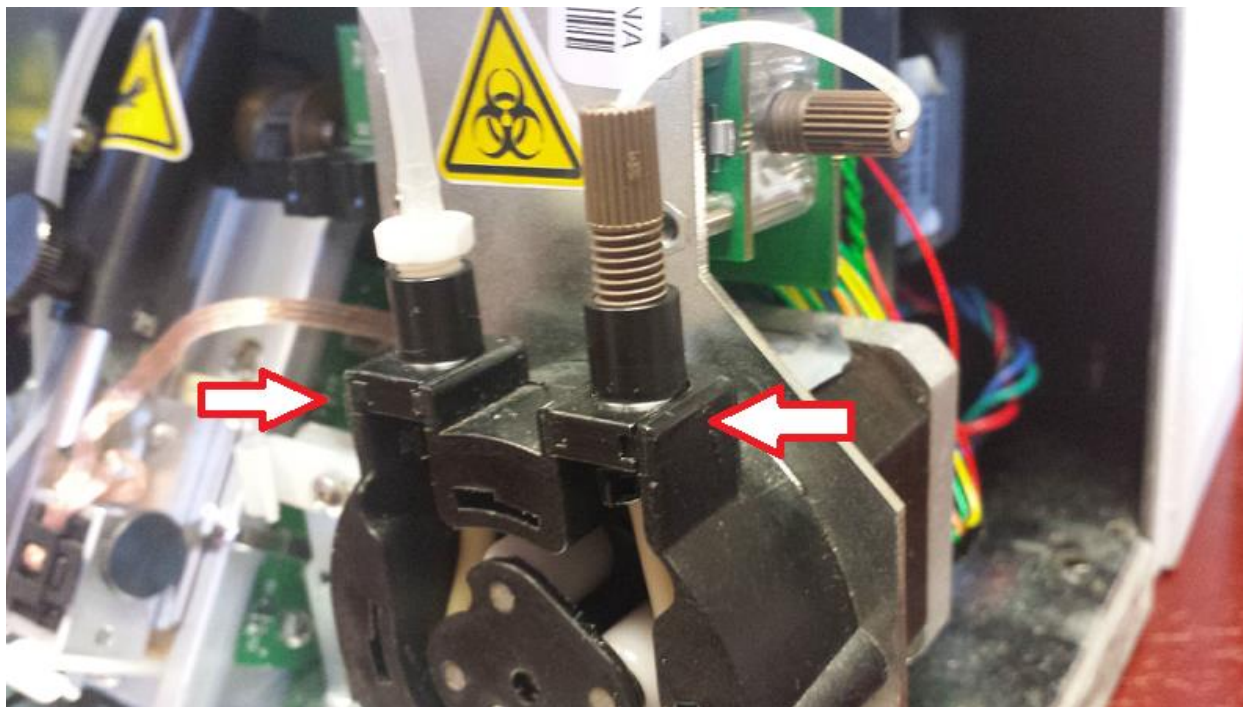

Figure 33
39. Starting on the left side of the primary pump, insert the groves of the new tubing into the slot on the pump. Slowly work the tubing in the pump. Once the tubing is in place, insert the groves of the new tubing into the slot on the right side of the pump. See Figure 33 for correct placement.